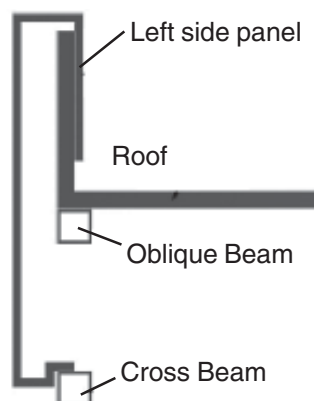

Figure 7
- a. Assemble the left and right panels as shown in figure 7.